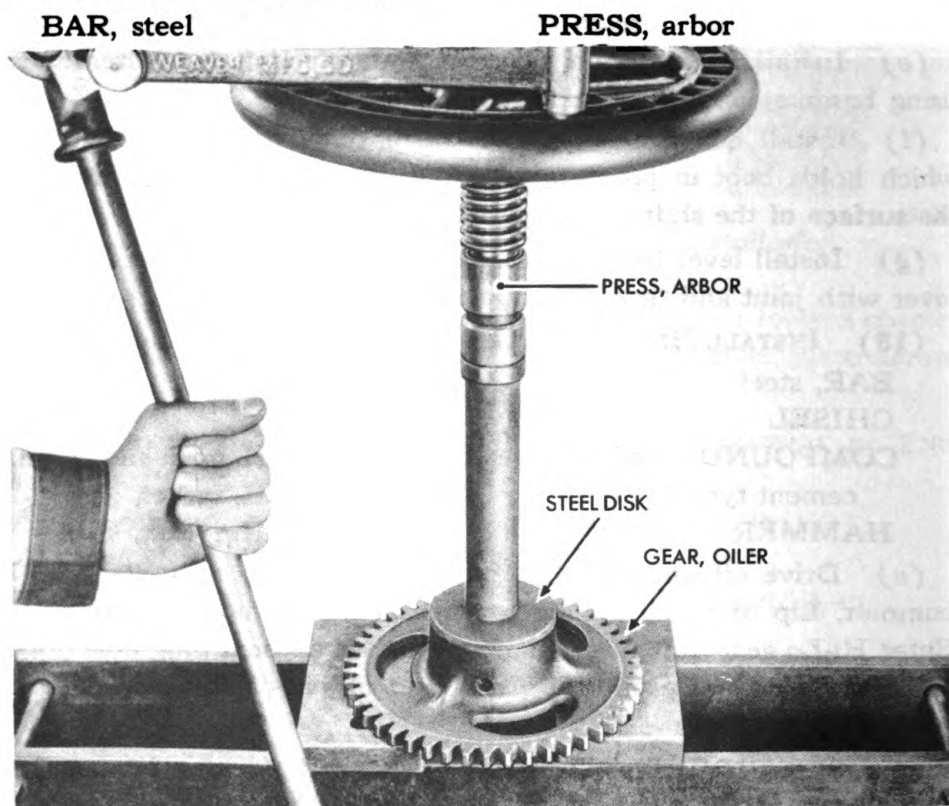

Figure 67 — Oiler Gear Bushing Installation
(20) INSTALL BUSHING IN OILER GEAR (fig. 67).